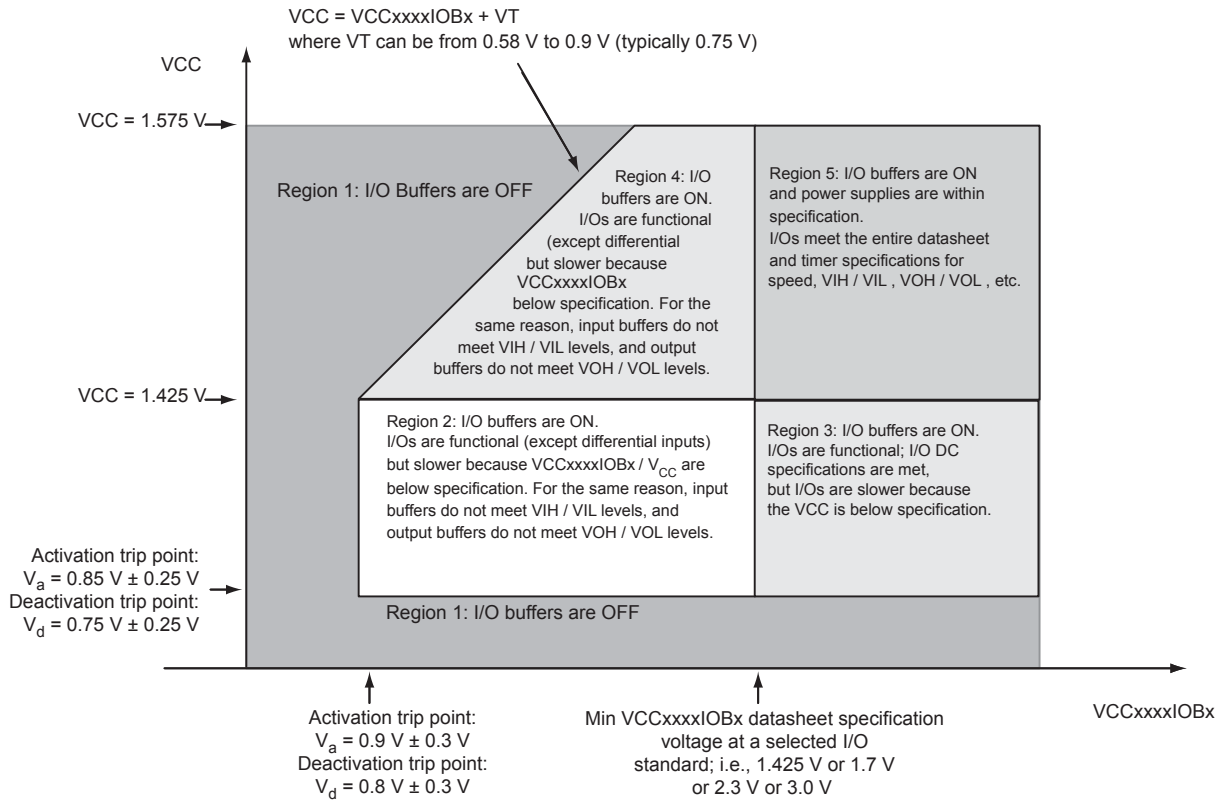

Figure 2-1 • I/O State as a Function of $V_{CCxxxxIOBx}$ and VCC Voltage Levels
Sophisticated power-up management circuitry is designed into every SmartFusion[®] device. These circuits ensure easy transition from the powered-off state to the powered-up state of the device. The many different supplies can power up in any sequence with minimized current spikes or surges. In addition, the I/O will be in a known state through the power-up sequence. The basic principle is shown in Figure 2-1 on page 2-6.
1. VCC and VCCxxxIOBx are above the minimum specified trip points (Figure 2-1 on page 2-6).
The Microsemi SoC Products Group recommends using monotonic power supplies or voltage regulators to ensure proper power-up behavior. Power ramp-up should be monotonic at least until VCC and VCCPLLx exceed brownout activation levels. The VCC activation level is specified as 1.1 V worst-case (see Figure 2-1 on page 2-6 for more details).